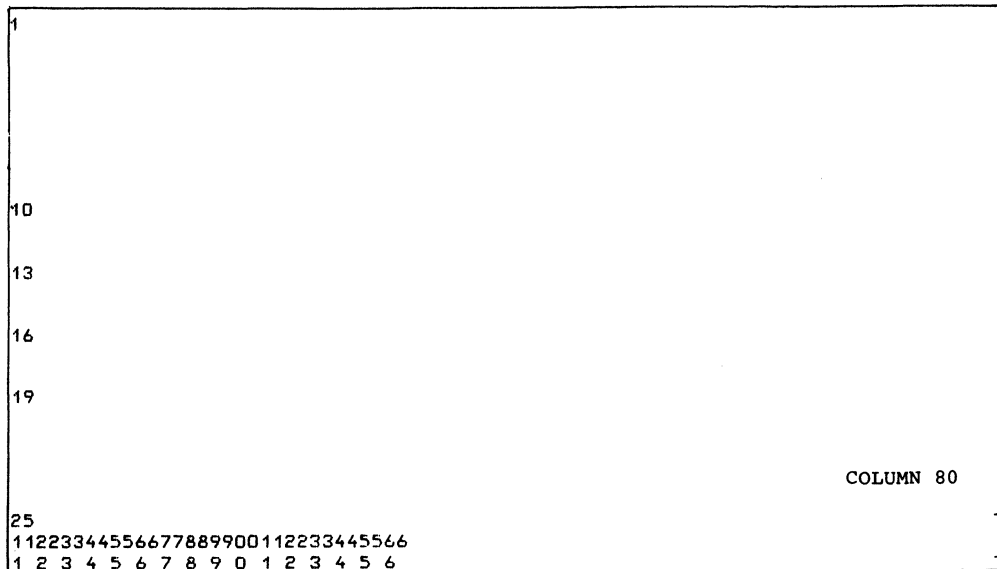

Figure 7-2 VIP7200/PRU1003/PRU1005 Interaction Test
12. Type l and depress RETURN key. Line l is identified (see Figure 7-2).
47. Off-line test of printer is complete. Check output results with Figure 7-2. Any discrepancy indicates a faulty printer.